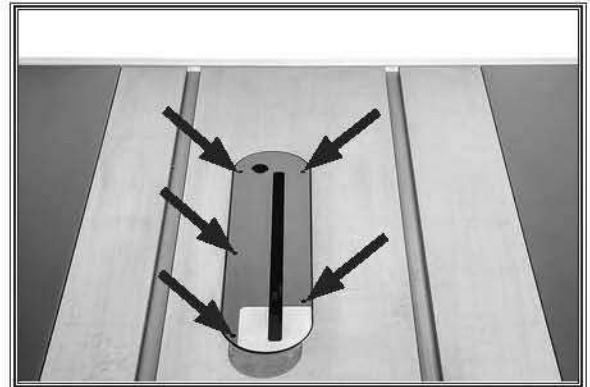

Figure 122. Location of table/dado insert holes with adjustment screws.
The table/dado insert must sit perfectly flush with the table to provide a smooth, continuous surface for the workpiece to slide over. The insert is held in place by a magnet and sits on top of five adjustment screws (see **Figure 122**). The insert should be checked and adjusted any time it is removed and replaced, after prolonged use, or any time you notice the workpiece does not slide smoothly across the insert.
3. Insert screwdriver through holes shown in **Figure 122** and either loosen screws to raise insert, or tighten screws to lower it. Repeat **Steps 2-3** until insert is perfectly flush with surface of table.